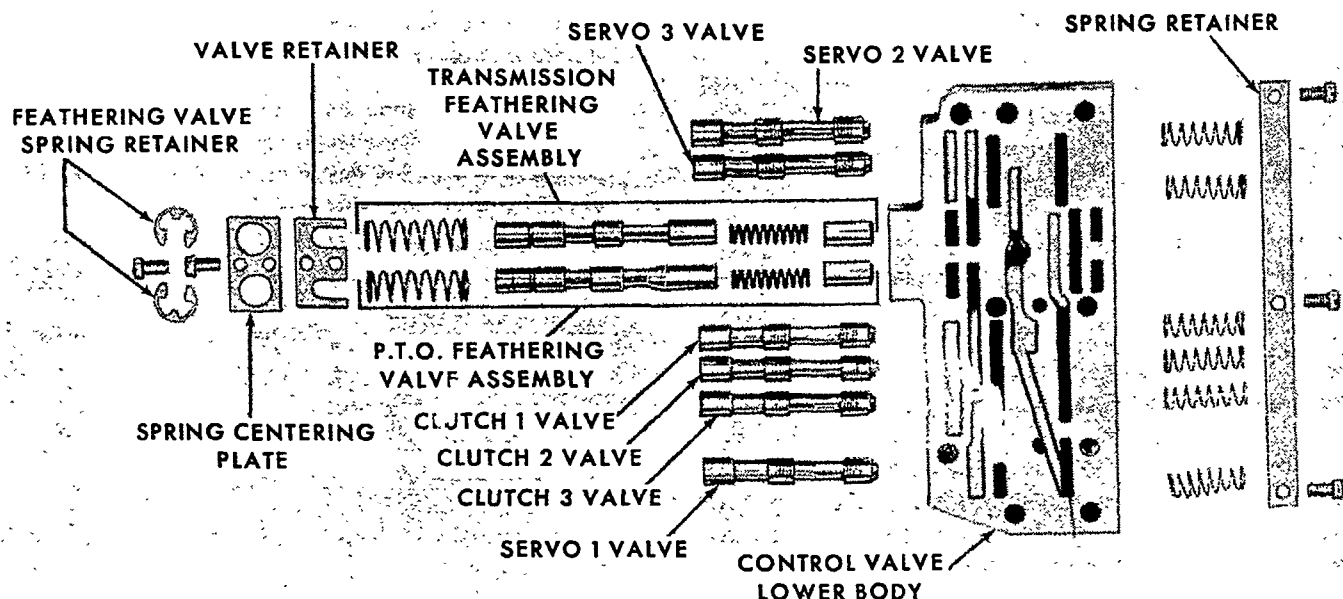

Figure 77
1. Arrange all parts in their proper position, as shown in Figures 77 and 78.